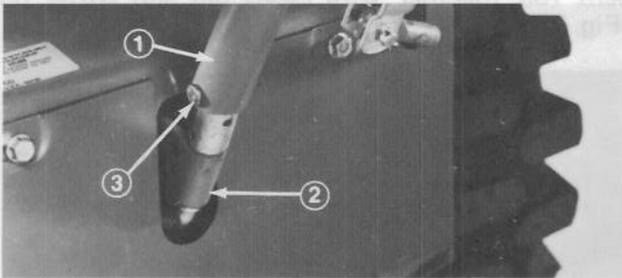
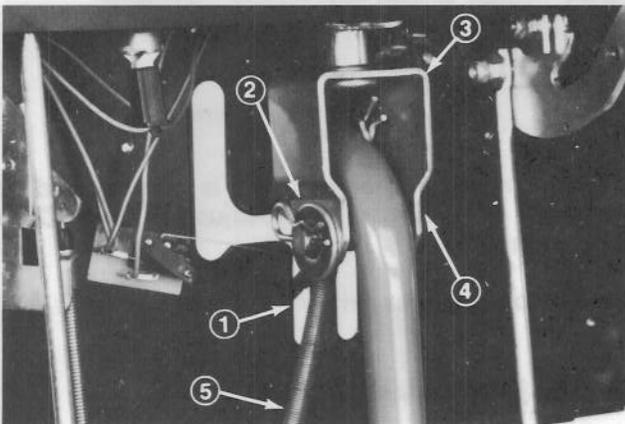
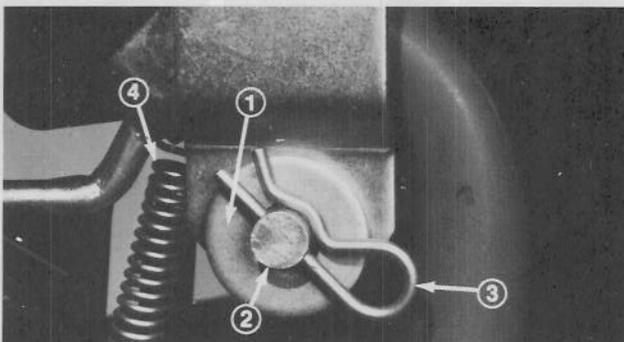

Figure 9
Figure 10
Figure 11
2. From back side, slide control rod over lower tube (Fig. 9) and wheel drive control lever through 1st gear slot in control panel (Fig. 10). Hook tension spring to hole in wheel drive control pivot. (Fig. 10). Next, line up holes in wheel drive control pivot with U-shaped pivot bracket and secure parts in place with clevis pin (Fig. 11). Head of clevis pin must be on right side of U-shaped bracket.
3. Slide flat washer onto clevis pin and hair pin cotter through clevis pin so all parts are retained in place (Fig. 11).
5. Line up holes in lower end of control rod with hole in tube at center of traction unit (Fig. 9). Secure parts together with clevis pin and cotter pin (Fig. 9).